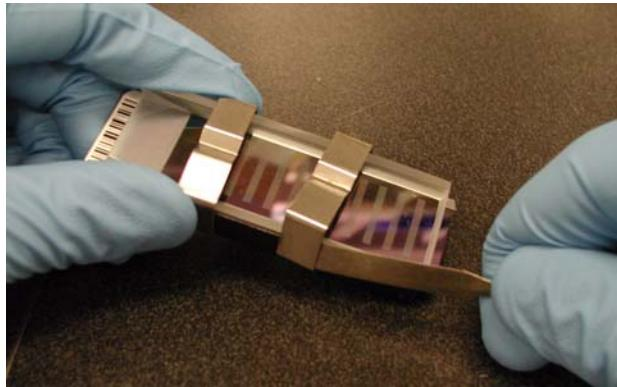

Figure 155 Removing Metal Clamps from Flow-Through Chamber
- a. Using the dismantling tool, remove the two metal clamps (Figure 155).